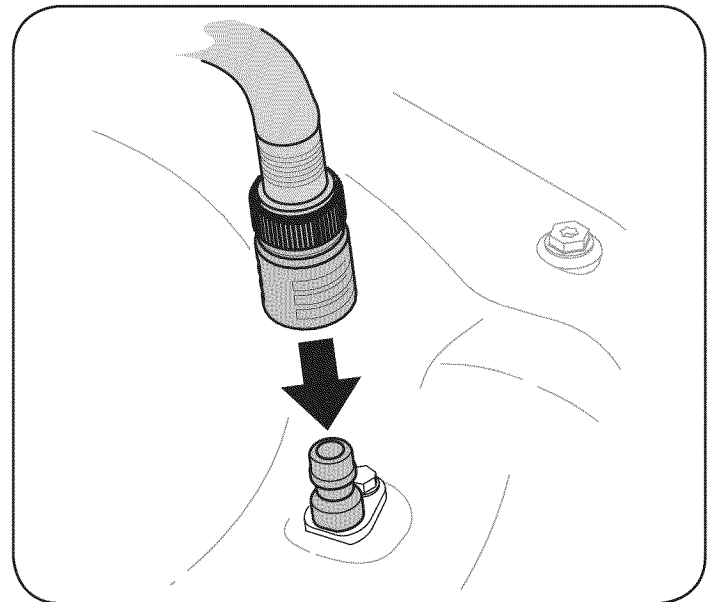

Figure 15
3. Attach the hose coupler to the water port on your deck's surface. See Figure 15.